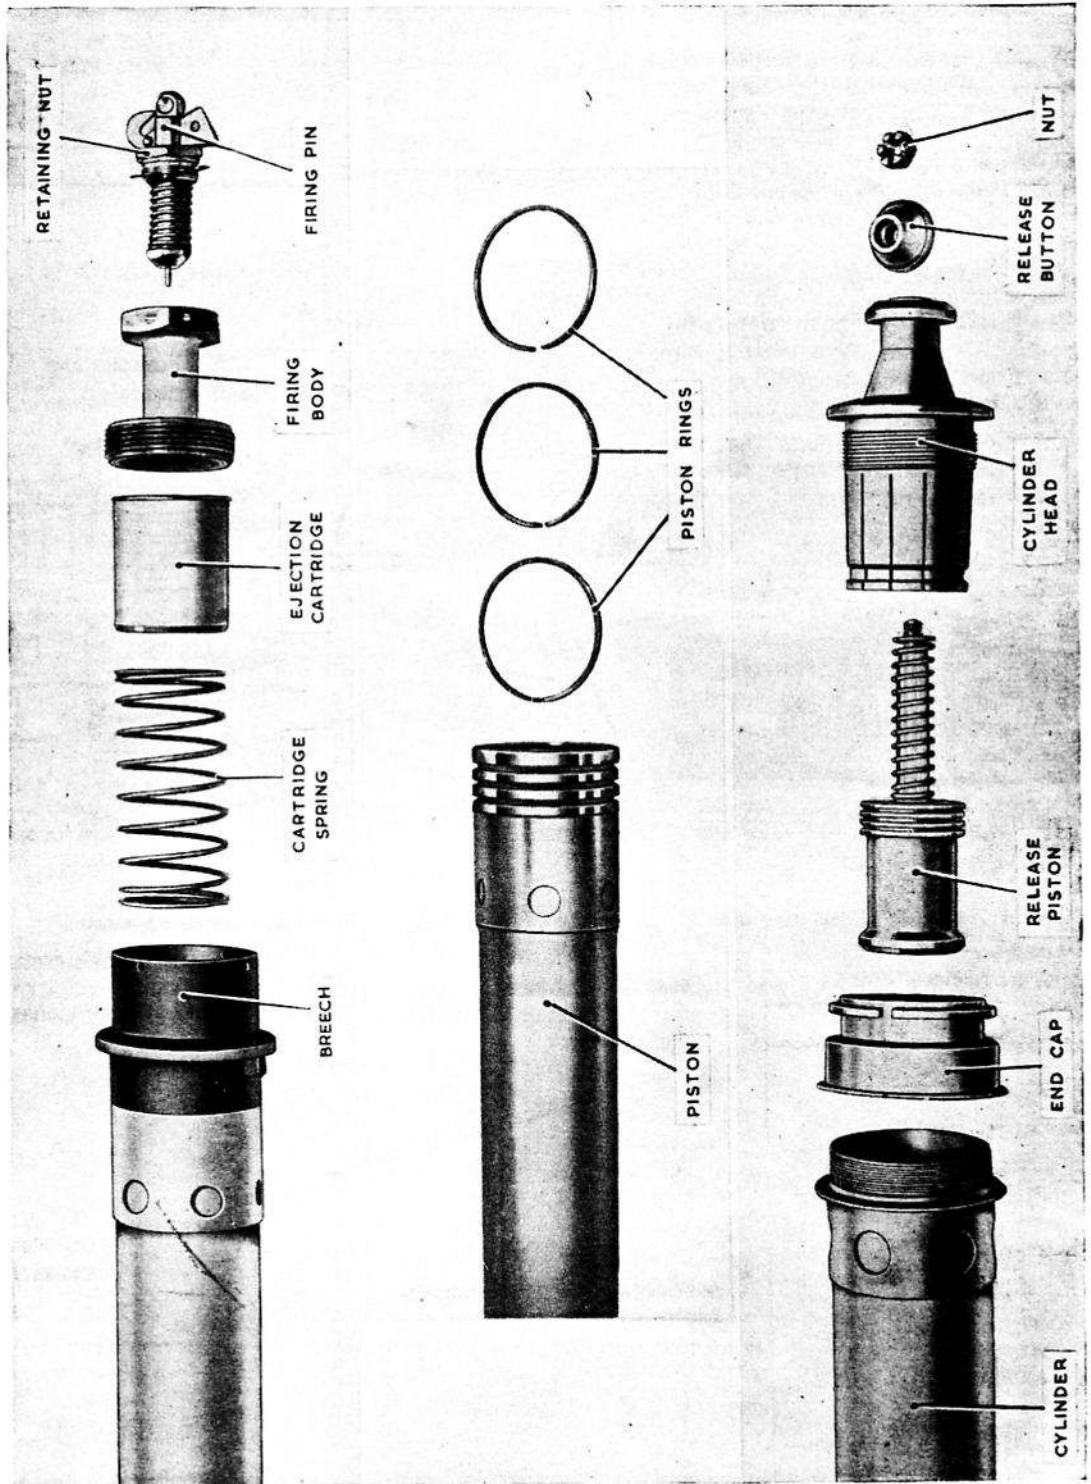

Fig. 10. Ejection gun components
- (4) If the action of the firing pin when checked as described in sub-para. (3) is unsatisfactory, the retaining nut (fig. 10) should be unscrewed with a  $\frac{5}{8}$  in. box spanner, after the tab of the brass locking washer is bent down, and the